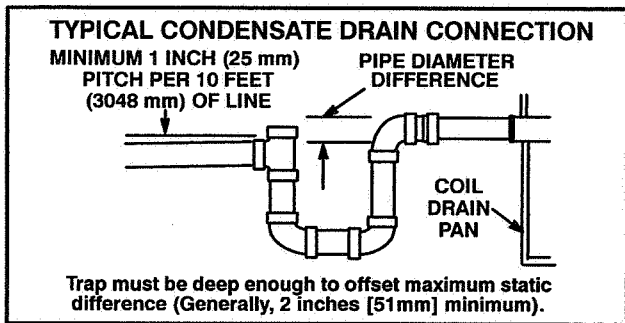

FIGURE 12
A 5 inch section of PVC pipe is provided with the unit. Cut the pipe in half and use to route the auxiliary and main drains. Connect main condensate drain and route downward to an open drain or sump. Do not connect drain to a closed waste system. Refer to figure 12 for typical condensate trap configuration.
- 6 - Drains should be constructed in a manner to facilitate future cleaning or interfere with filter access. See figure 12.